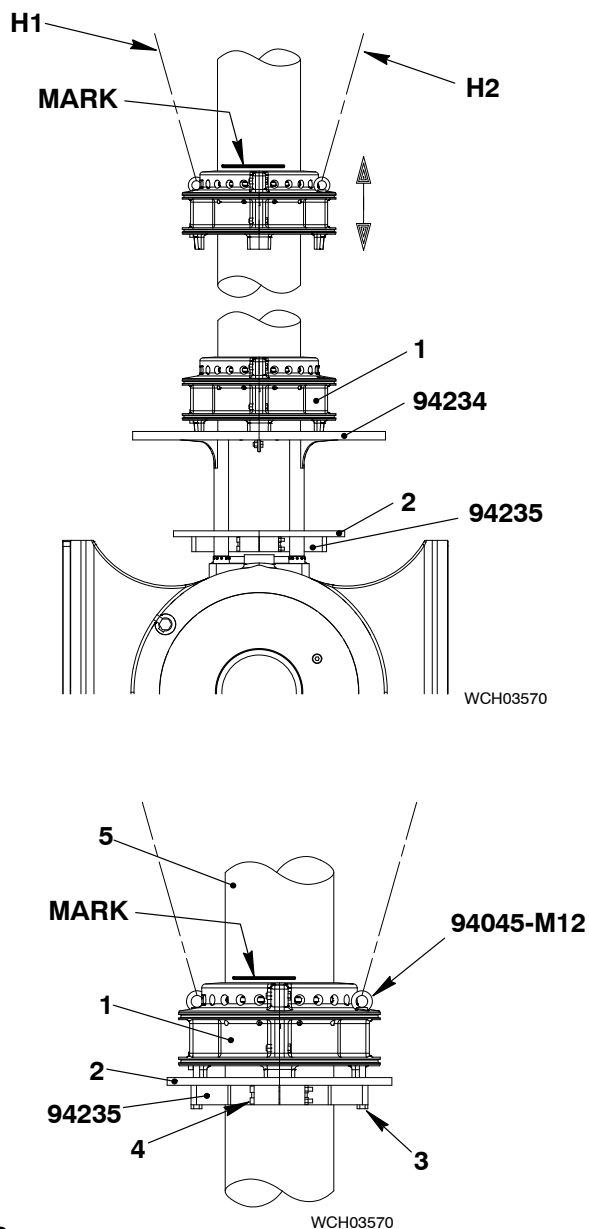

Fig. 12
- 1) Operate the manual ratchets (H1 and H2, Fig. 12) to lift the piston rod gland (1) to the mark you made before.
- 3) Lift the tool (94235) together with the support plate (2) up to the piston rod gland (1).
- 4) Attach the tool (94235) to the piston rod gland (1) with the four bolts (4).
**Note: Make sure the dowel pin in the piston rod gland (1) is at the same position as the hole in the support plate (2).**
- 5) Torque the four bolts (3) to 30 Nm.
- 7) Operate the turning gear to move the piston rod gland (1) into the cylinder block (to TDC). Make sure that the dowel pin in the piston rod gland engages with hole in the support plate (2).